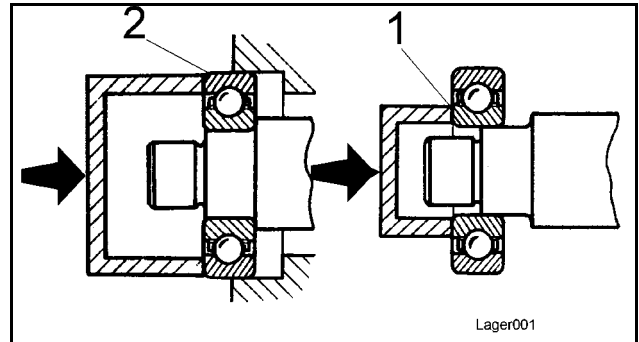

Fig. 6
**When assembling the ball or roller bearing to the shaft load must only be applied to the inner race 1 (Fig. 6).**
**When fitting the bearing into the housing load must only be applied to the outer race (2).**